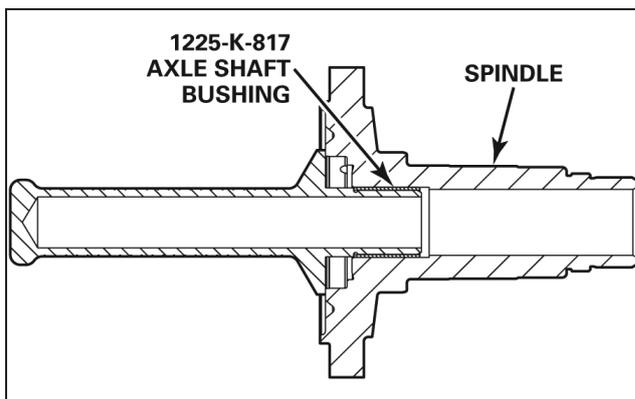

Fig. 5.8
2. Install the bushing into the spindle until it is fully seated (MST5000). Fig. 5.8